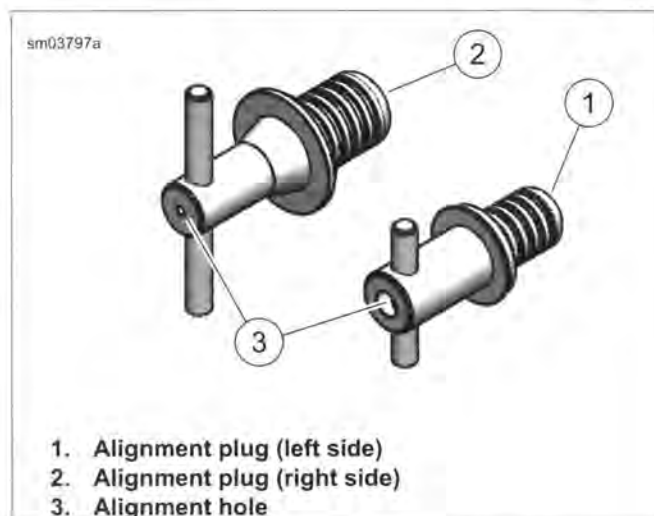

Figure 2-46. Axle Alignment Plugs
- See Figure 2-46. Using AXLE ALIGNMENT PLUG SET (Part No. HD-48856-A), insert axle alignment plugs (1, 2) into left and right ends of rear axle.